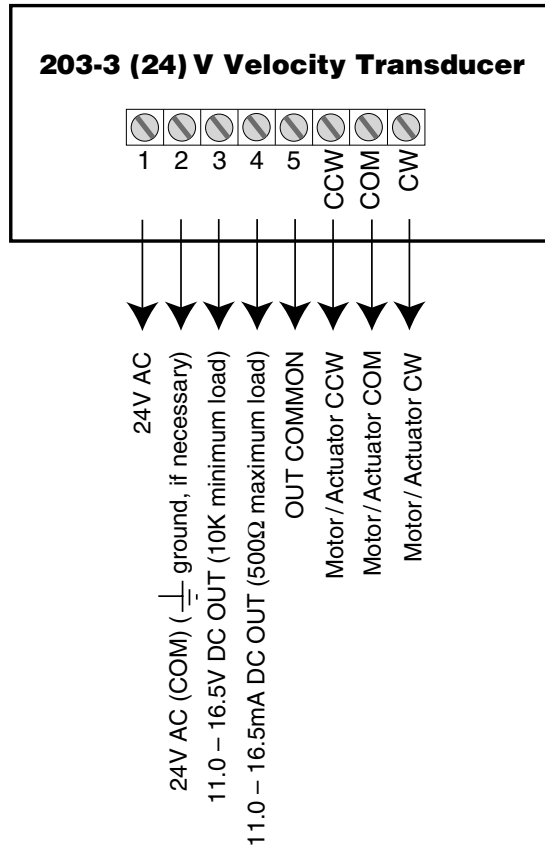

Figure 1
1. Connect the 203-3 (24) V transducer as in Figure 1.
1. The Velocity Transducer is mounted to one side of the actuator at the factory. (See Figure 1.)